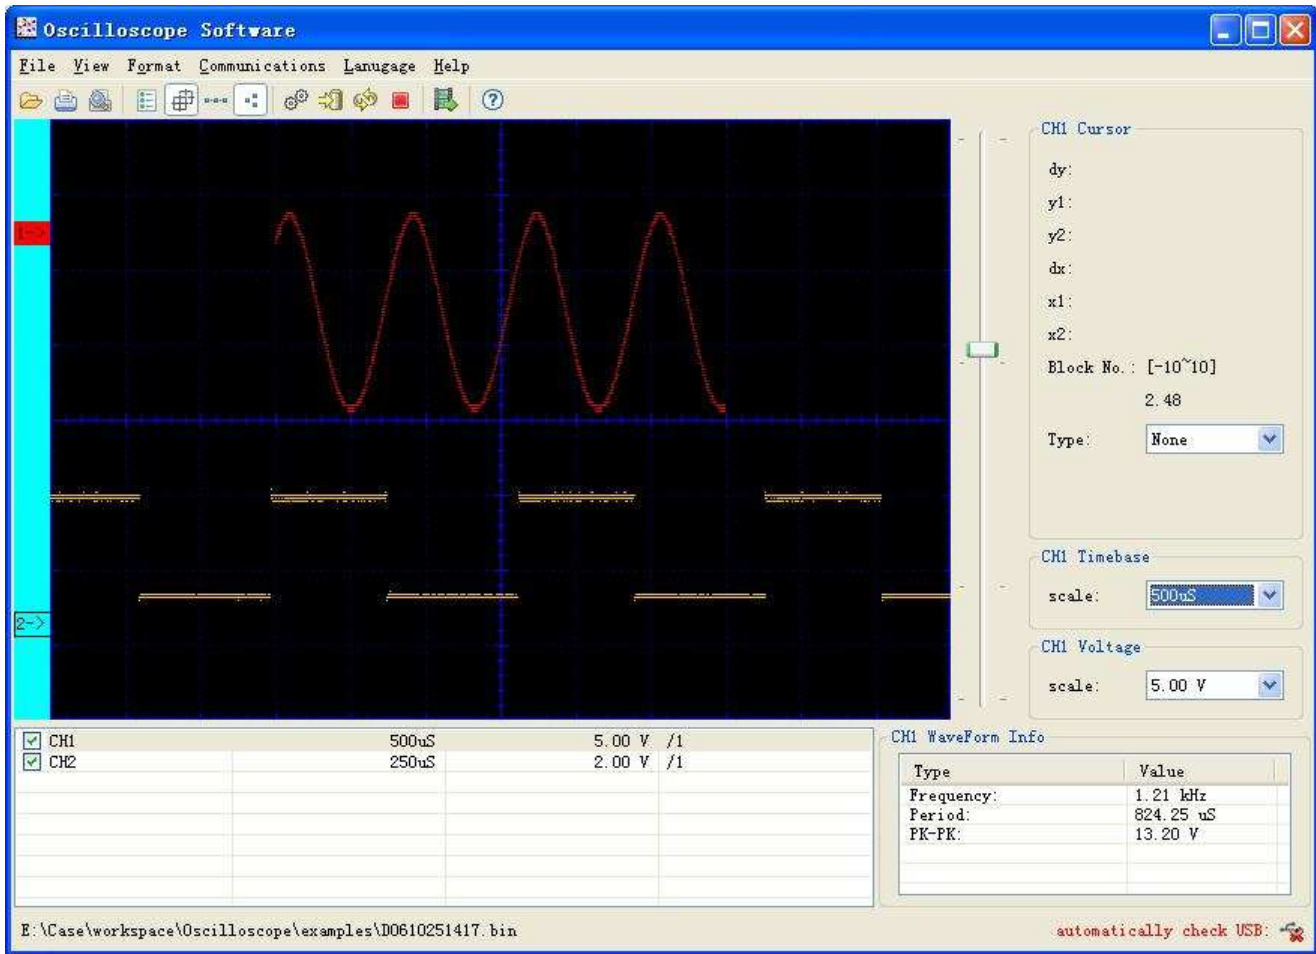
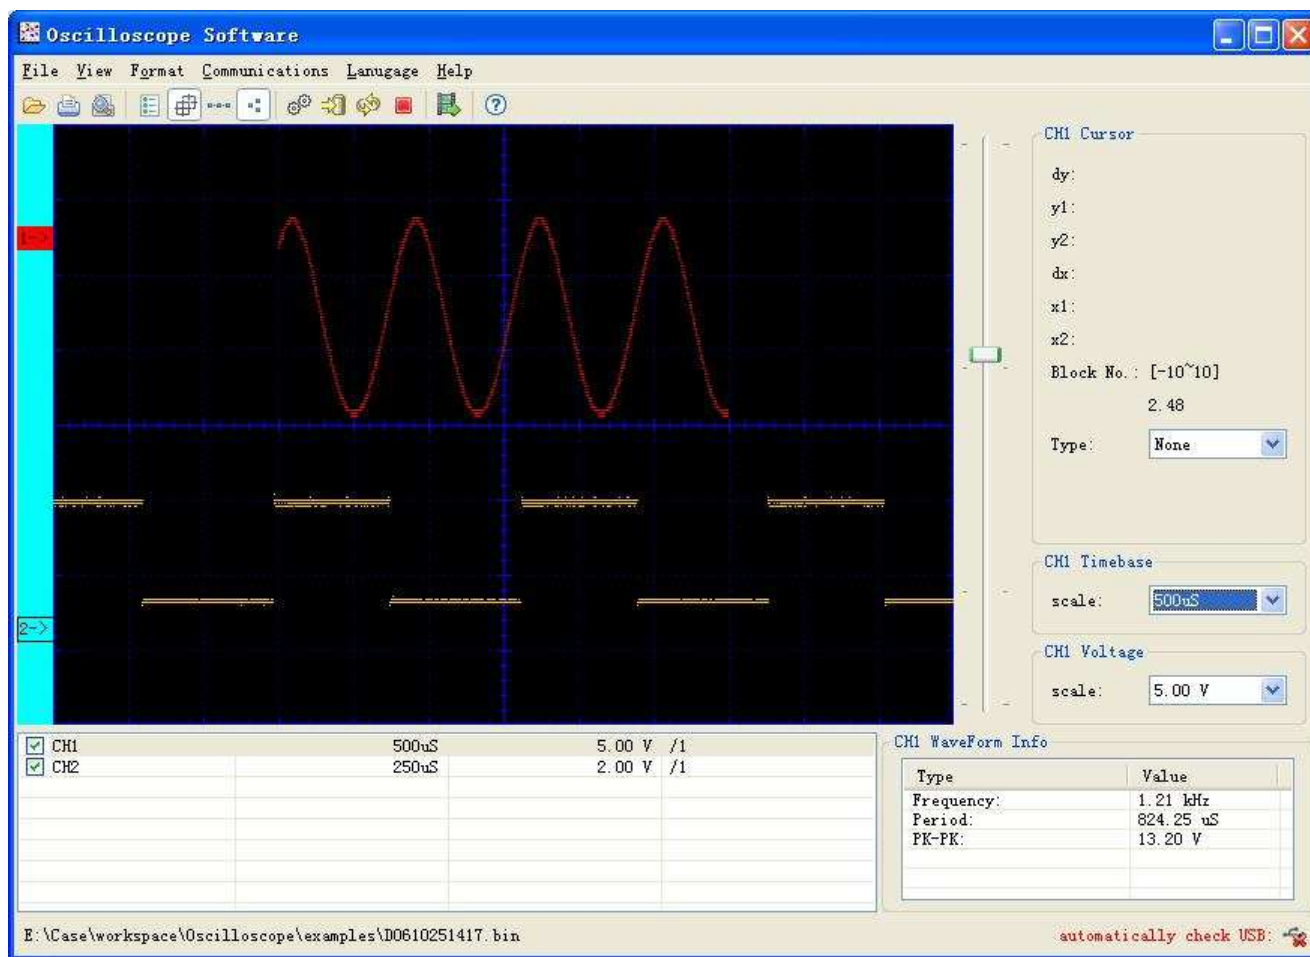

Fig 5-1-2
Fig 5-1-3
- 2). The time base division of current waveform can be shown and adjusted in such area (as Fig 5-1-2) which is the time range about one scale on the vertical line (8 scales in the following), and adjust the scale in the come box, the waveform zoom to the corresponding division with the centre scale mark as centre shaft.(Fig 5-1-3)
4. Double lines (Fig 5-1-3): The vertical line and the horizontal line are all in the waveform area and be measured at the same time.